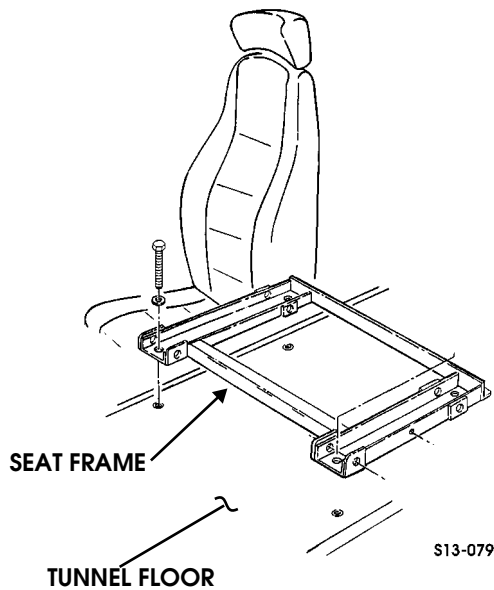

Figure 13-82: Auxiliary Seat Frame
3. Remove four bolts, washers, and auxiliary seat frame from tunnel floor (Figure 13-82).
1. Install auxiliary seat frame on tunnel floor with four washers and bolts (Figure 13-82). Torque bolts to 27-30 lb-ft (36-40 N•m).